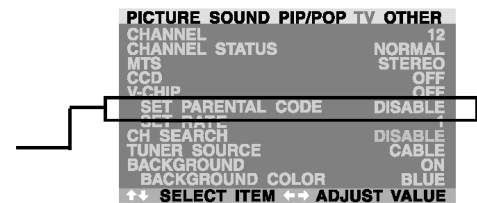

Figure 1
4. Press the ADJ + key to set the selection to “ENABLE”. As soon as you press this button, the Passcode setting menu will be displayed (see Figure 1).